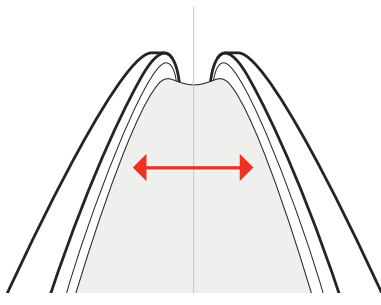

Figure 7. Center the rim strip.
3. As you apply the tape, center it in the bottom of the well of the rim (Figure 7). If the tape is centered correctly, the spoke holes will be completely covered. If a hole is not covered, it could puncture the inner tube.